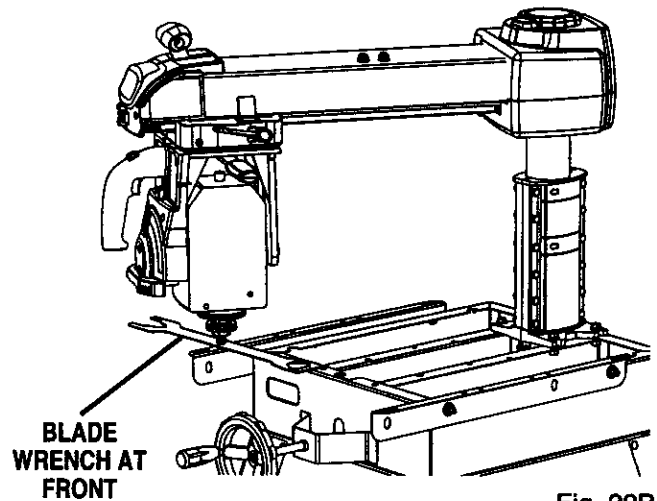

Fig. 22B
- Without changing the elevation, move the arm to place the blade arbor over the front of table support. See Figure 22B.